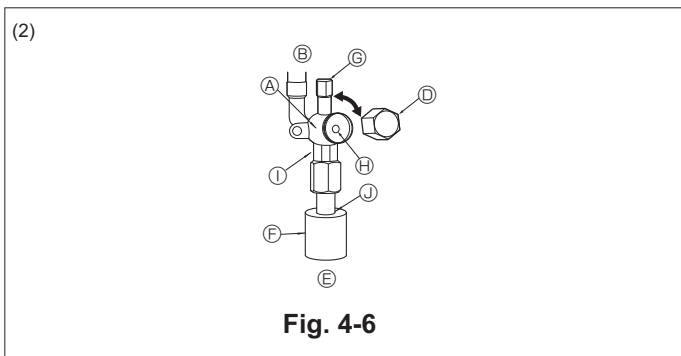

Fig. 4-6
- Liquid side of A24-A42 and Gas/Liquid side of A12, A18 (Fig. 4-6)
- (A) Valve
- (B) Unit side
- (C) Operation section
- (D) Cap
- (E) Local pipe side
- (F) Pipe cover
- (G) Service port
- (H) Wrench hole